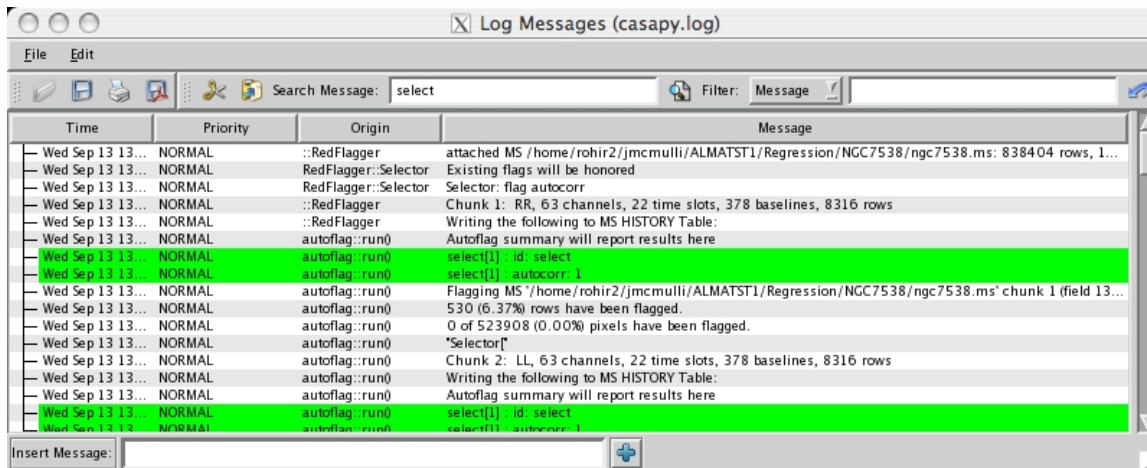

Figure 1.6: CASA Logger - Search example: Specify a string in the entry box to have all instances of the found string highlighted.
- **Search** — search messages by entering text in the Search window and clicking the search icon. The search currently just matches the exact text you type anywhere in the message. See Figure 1.6 for an example.